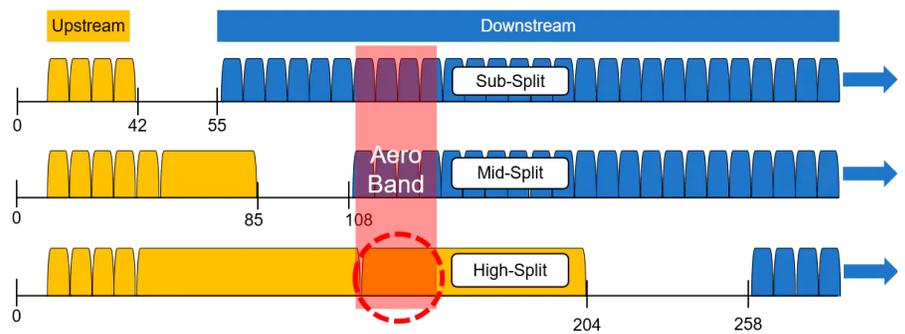

Figure 4. FM ingress with high split.
**FM Ingress** – FM ingress has been problematic for cable operators due to the always-on nature of FM signals. Anywhere there is a shielding weakness in a cable network, there are likely multiple FM signals ready to flood in and disrupt services. As with the aero band, the FM band moves into the upstream with high-split architectures (Figure 4). Now the funnel effect applies, creating a cumulative effect on the combined upstream signal and making localization more difficult. The wider OFDMA carriers specified for use above 85 MHz make ingress visibility even more challenging. Many operators are reporting success with using heatmap spectral analysis in headend systems and field meters